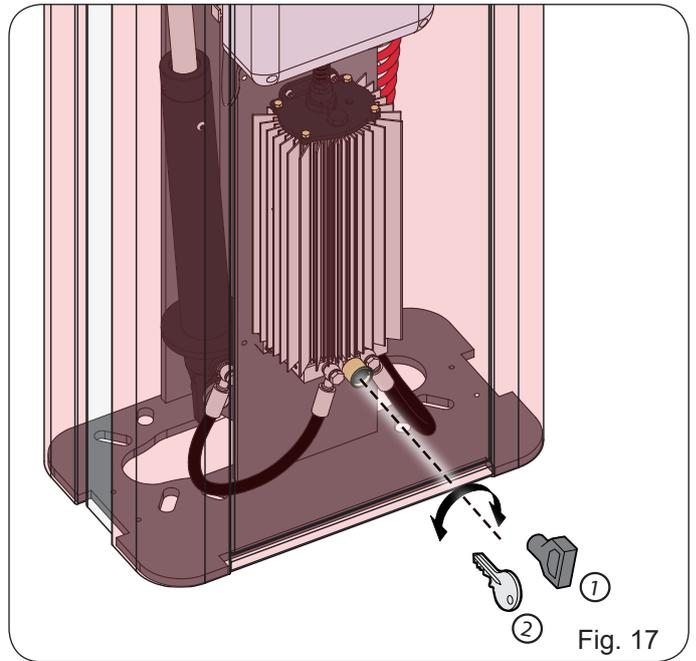

Fig. 17
Should manual operation of the barrier be required due to power outage or malfunction, the manual release device can be operated with the supplied key. The key is either triangular (Fig. 17 ref. ①) or customised (Fig. 17 ref. ②) optional.
- Insert the key in the lock and turn it **counter clockwise** until it clicks into place, as shown in Fig. 17
- (Fig. 17 ref. ①) standart triangular key
- (Fig. 17 ref. ②) optional metal key